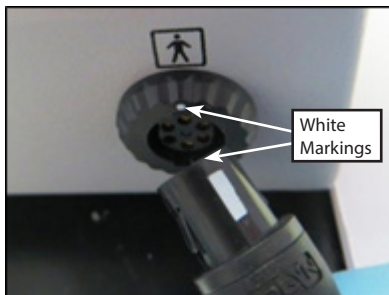

Figure 29
- Connect the pressure sensor connector to the pressure sensor receptacle on the Controller (Fig. 29) by aligning the white markings on the connector and receptacle.